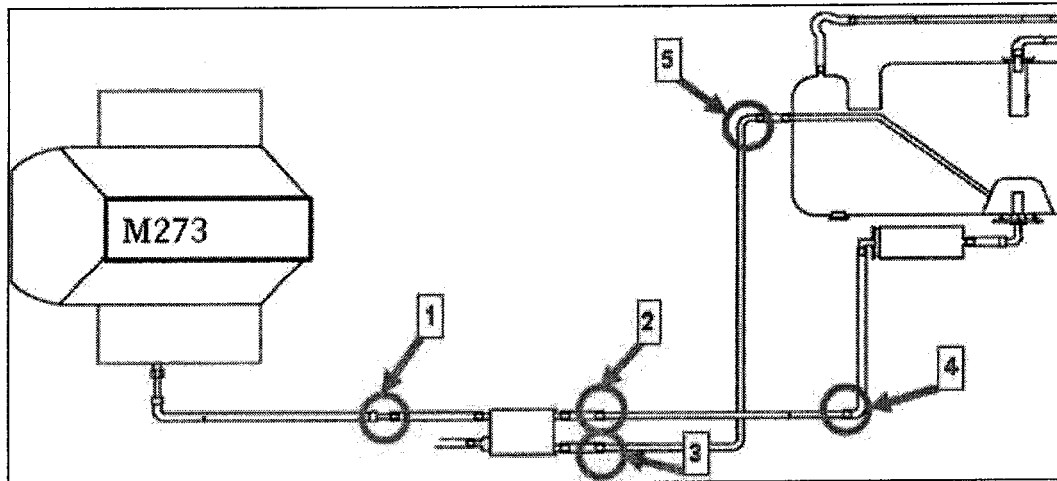

Figure 1
1. 5 Fuel line clamps must be retrofitted at fuel line quick connector locations (arrows, Figure 1).
- Refer to connection location diagram (Figure 1) for connector locations.